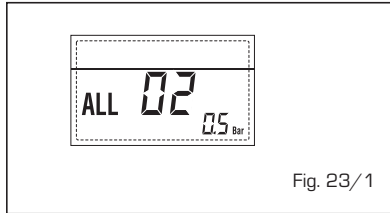

Fig. 23/1
**- HIGH WATER PRESSURE ANOMALY ALARM 03 (fig. 23/2)**